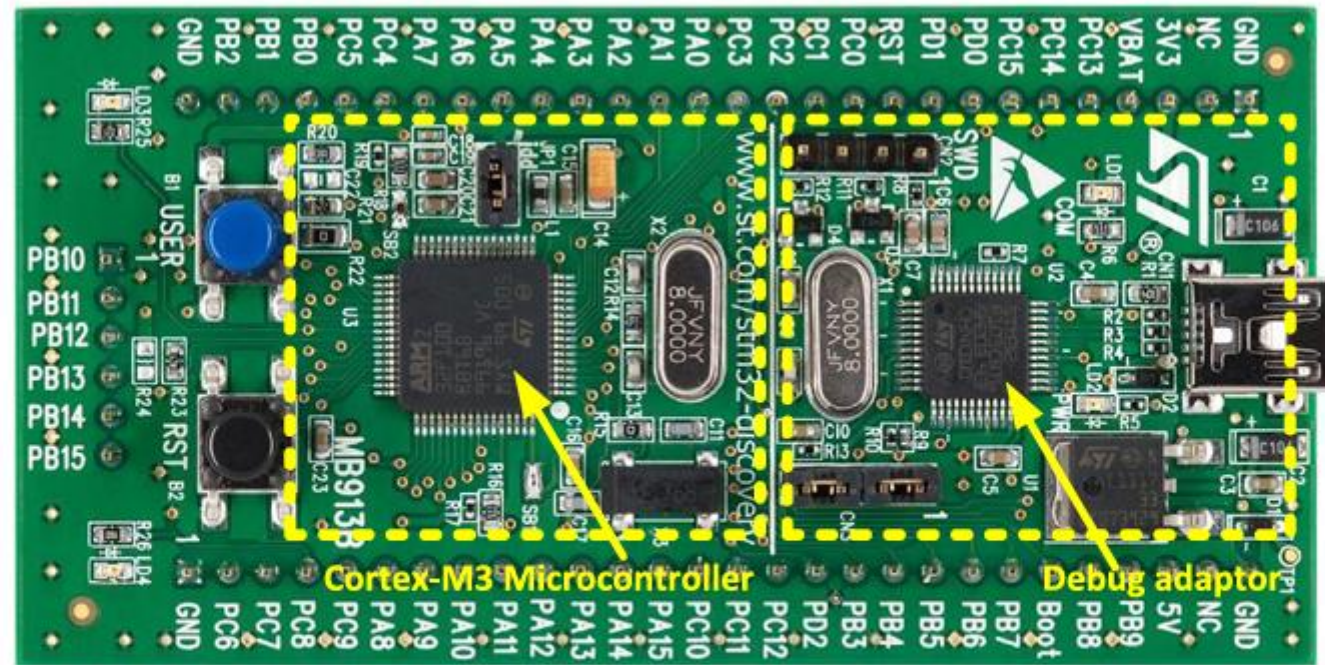

FIGURE 2.3
- STMicroelectronics (e.g., STM32 Value Line Discovery; Figure 2.3), NXP, Energy Micro, etc. Many of these onboard USB adaptors are also supported by mainstream commercial development suites. So you can start developing software for the Cortex-M microcontrollers with a tiny budget.